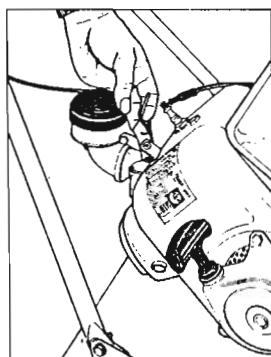

Fig. 3
3. Make certain the earthing strip (8) is clear of sparking plug (see Fig. 3).